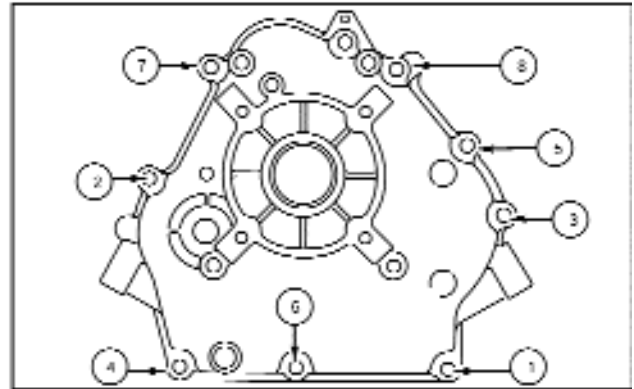

Figure 143 - Torque Sequence, 9 H.P. Engine (175 in. lbs.) (19.8 Nm)
- Torque crankcase cover screws in sequence shown in Figures 143 and 144.